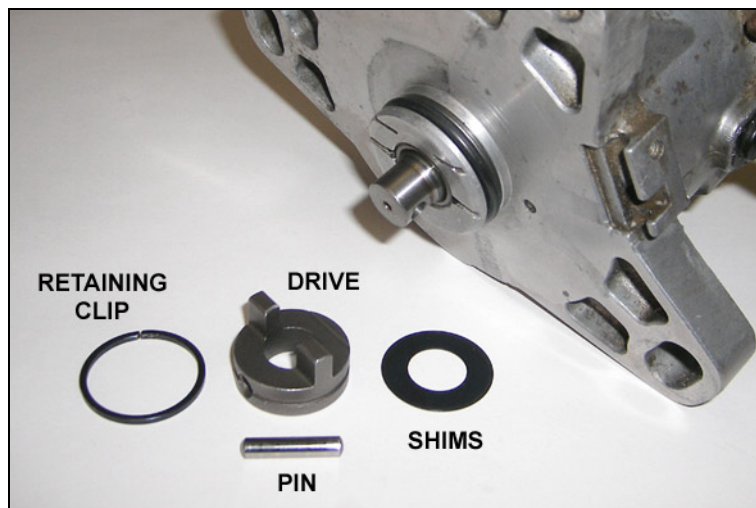

Figure 1.
- b) Remove the Retaining Clip, Pin, Drive, and Shims as shown in figure 1.